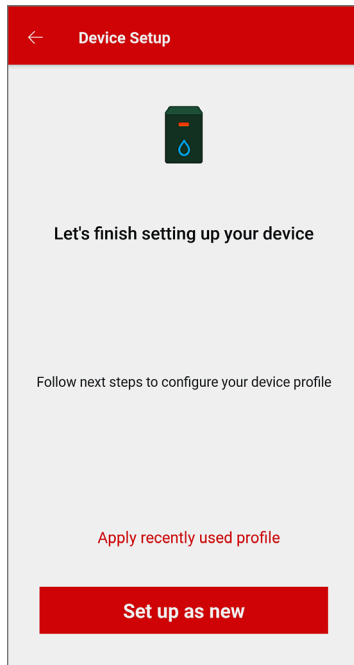

Figure 100. Device Setup as New
2. Press the "Set up as new" button to enter new identification and service information. Press the "Apply recently used profile" button to use information already provided. See **Figure 100**.